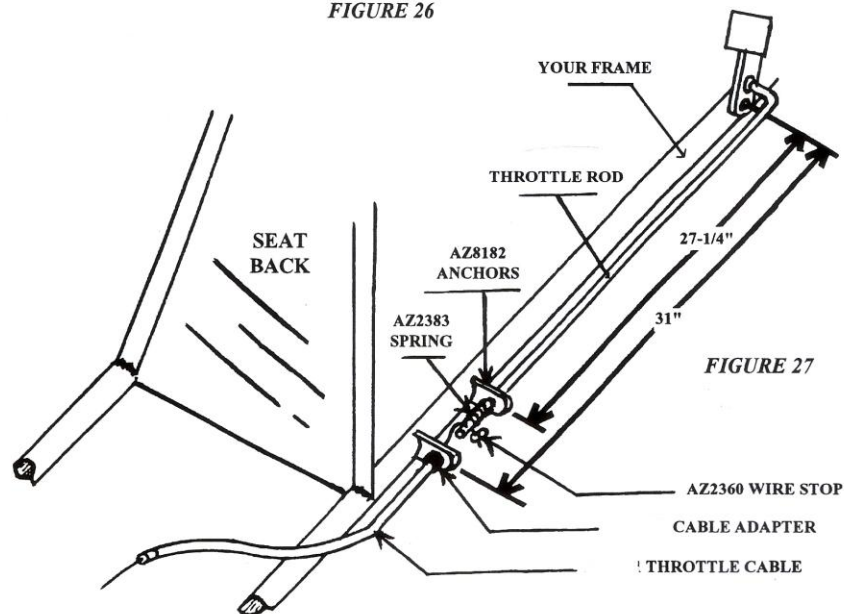
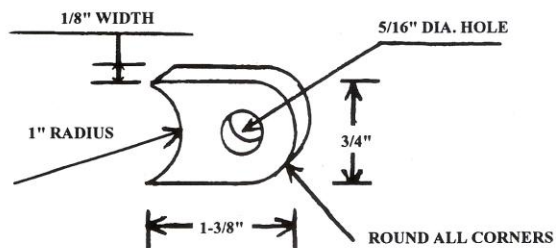

FIGURE 27
FIGURE 28
17. YOU WILL NEED TO MAKE TWO (2) CONTROL ROD ANCHORS, SEE FIGURE 28, AND WELD THEM TO YOUR FRAME AS SHOWN IN FIGURE 27, OR YOU CAN USE OUR CONTROL ROD ANCHORS AND WELD THEM TO YOUR FRAME.